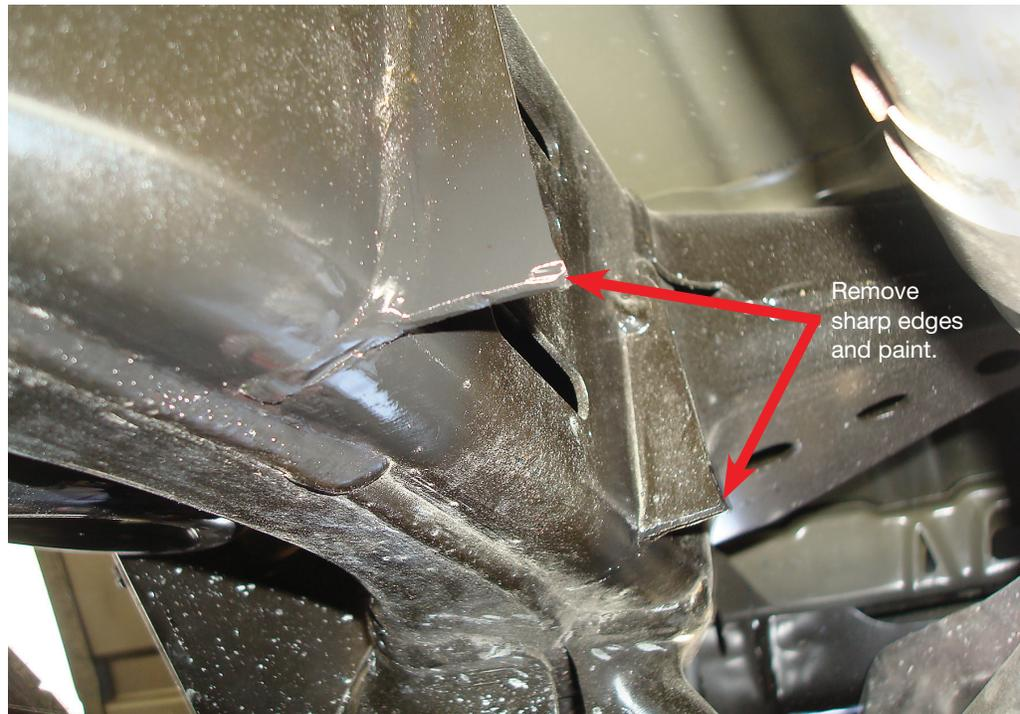

Fig. 5
- Remove the sharp edges with the cut off wheel. Clean and paint the exposed surfaces of the remaining jounce bumper bracket left on the frame (Fig. 5).